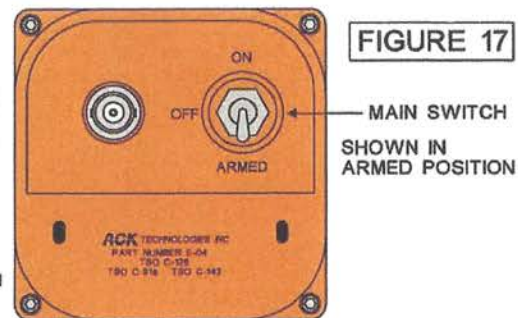

FIGURE 17
- 3.) A third method of activating the ELT, is by means of placing the main on-off-armed switch, on the front of the ELT in the "On" position. (Page 11 Fig. 17)
- 2.) Placing the main switch on the ELT in the "Off" position. (Page 11 Fig. 17)
2.) When the main switch of the ELT is moved from the "Off" position to the "Armed" position, it does a self test. This mode is primarily designed to provide a method to bench test the ELT, with the remote control disconnected. (Fig. 17)